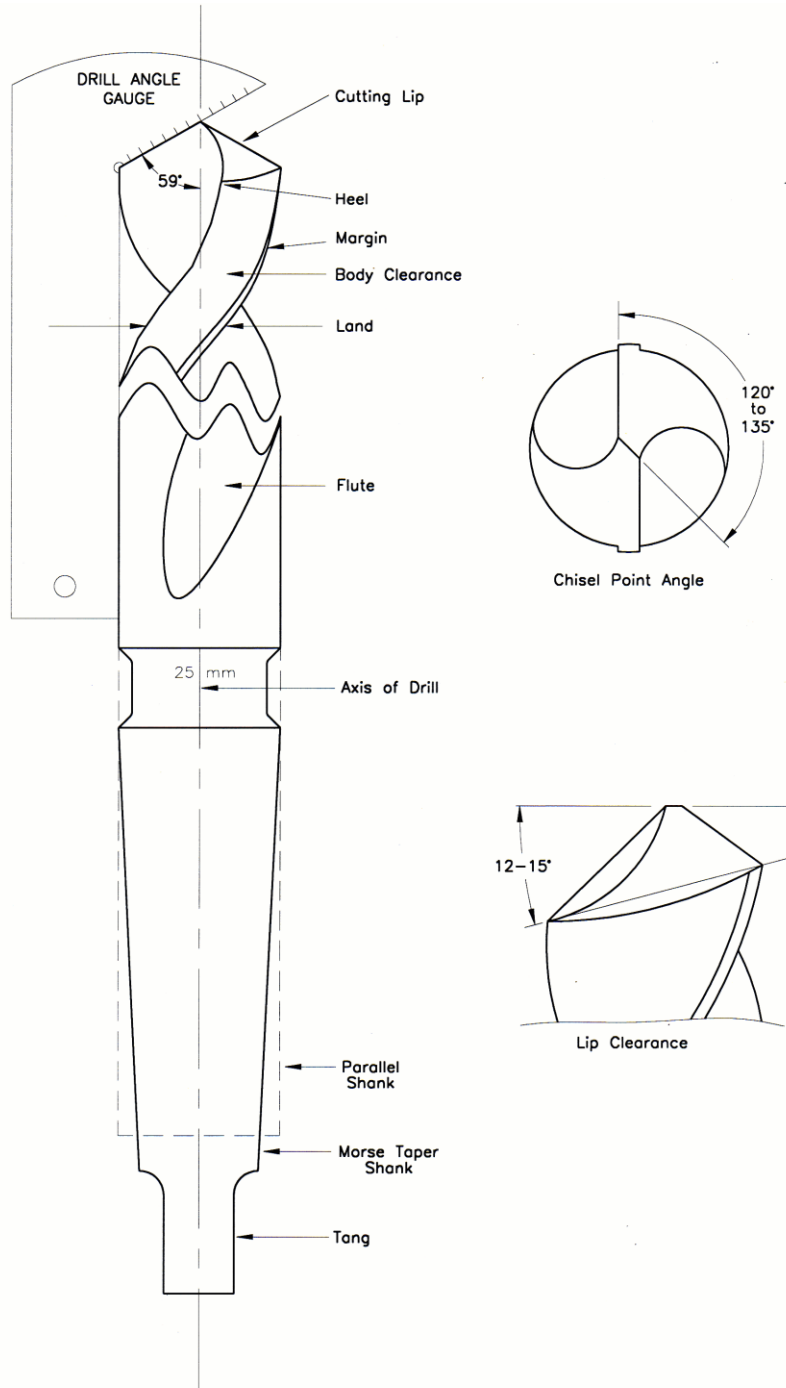

Figure 1 - Typical twist drill characteristics.
7. Twist drills are available in a variety of shapes, but the two most common types are the straight shank type and the morse taper shank type - see Figure 1.
- d. The length and angle of each cutting lip must be the same, otherwise an oversize hole will be drilled. A typical angle of the cutting lips for general purpose drilling is 59 degrees to the axis of the drill. The angle should be reduced to about 30 degrees for drilling materials such as wood, rubber, bakelite, fibre or plastics. The length and angle of the cutting lips should be checked with a drill gauge as shown in Figure 1.